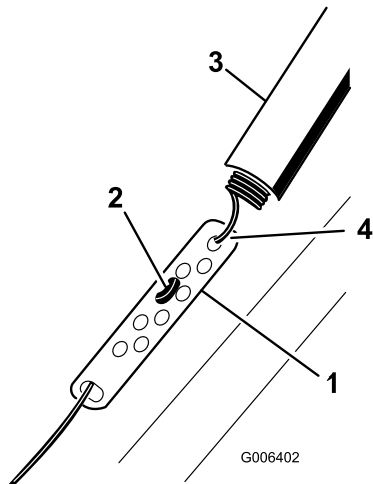

Figure 21
- Slide up the spring cover and unhook the spring from the adjuster link (Figure 21).
- Move the Z-fitting to a higher or lower hole on the adjuster link as needed to obtain the 1/16 inch to 1/8 inch (2 mm to 3 mm) gap between the control bar and the handle (Figure 21).